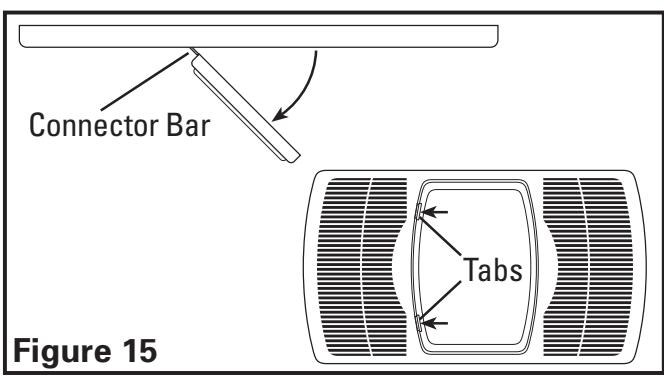

Figure 15
- Close the light lens and secure in place by swinging back into position and snapping the tabs in place (Figure 15).